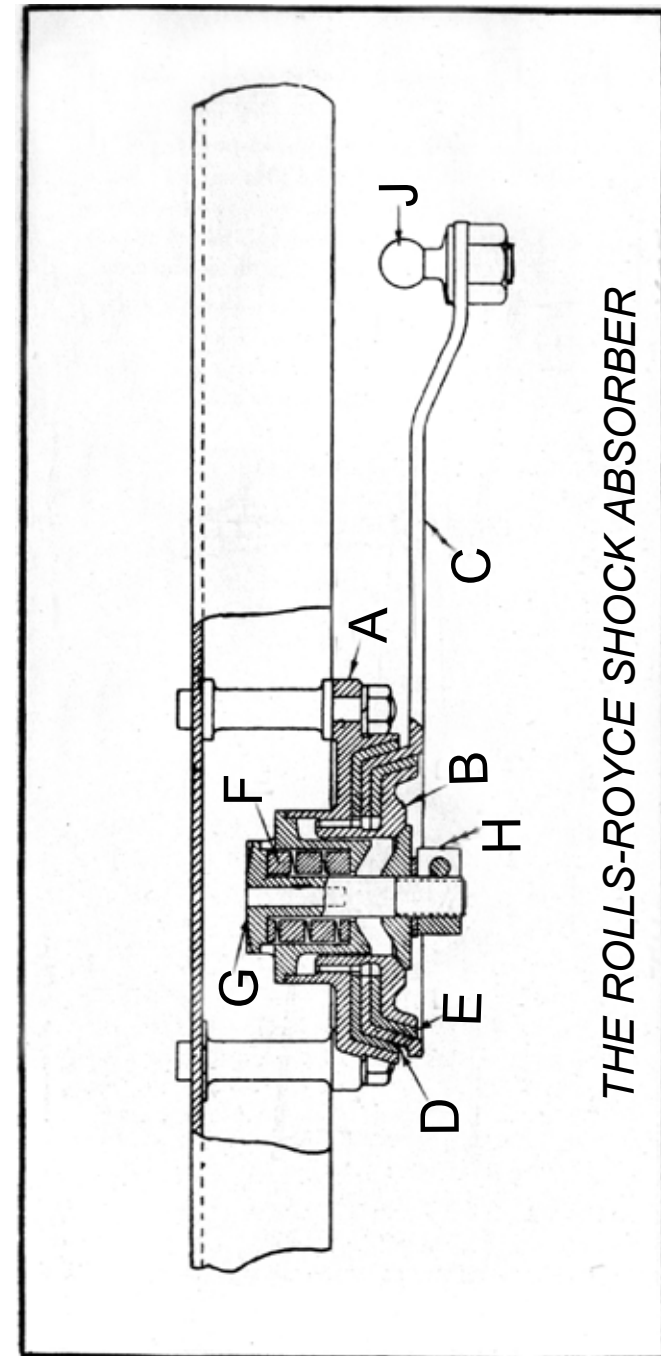

Fig. .74
The Shock Absorber consists of s base (A)-see Figs. 74 and 75 on pp. 102 and 103 - and a washer (B), which are keyed together. Between these parts a steel lever (C) is free to move. The steel lever (C) is kept out of contact with the metal portions (A) and (B) by means of two leather washers (D) and (E). The leather washers keep the damping effort exerted constant.